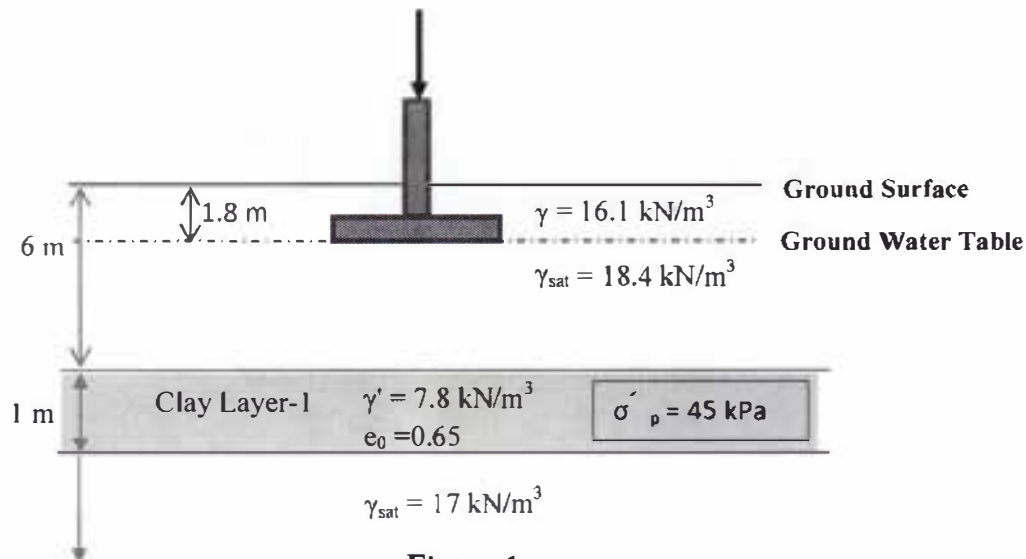
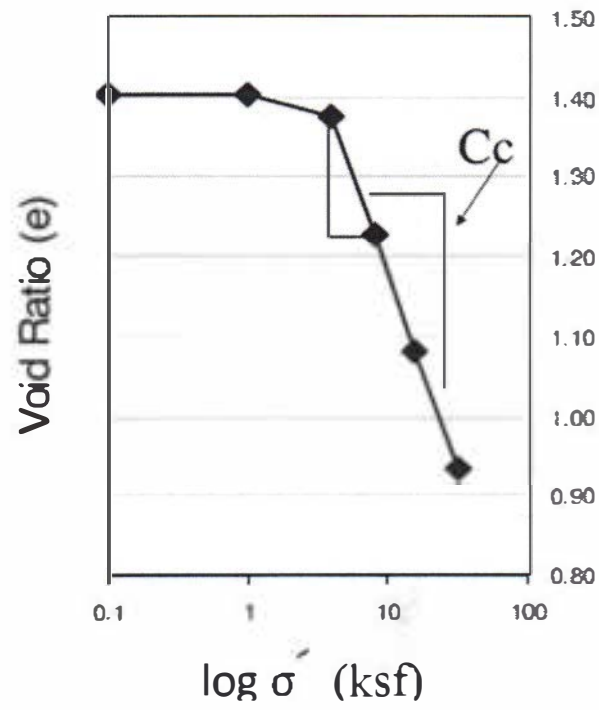

Figure 1
Figure 2
2. Calculate the effective stress at the depth of 6.5 m below the ground level (Figure 1).
3. The e - $\log \sigma'$ curve (Figure 2) is drawn from one-dimensional consolidation test results from a clay specimen collected from 6.5 m below the ground surface (Figure 1).
- (iii) Calculate the primary consolidation settlement of the clay layer (Figure 2). Use the compression index calculated in question# 3(i). 4